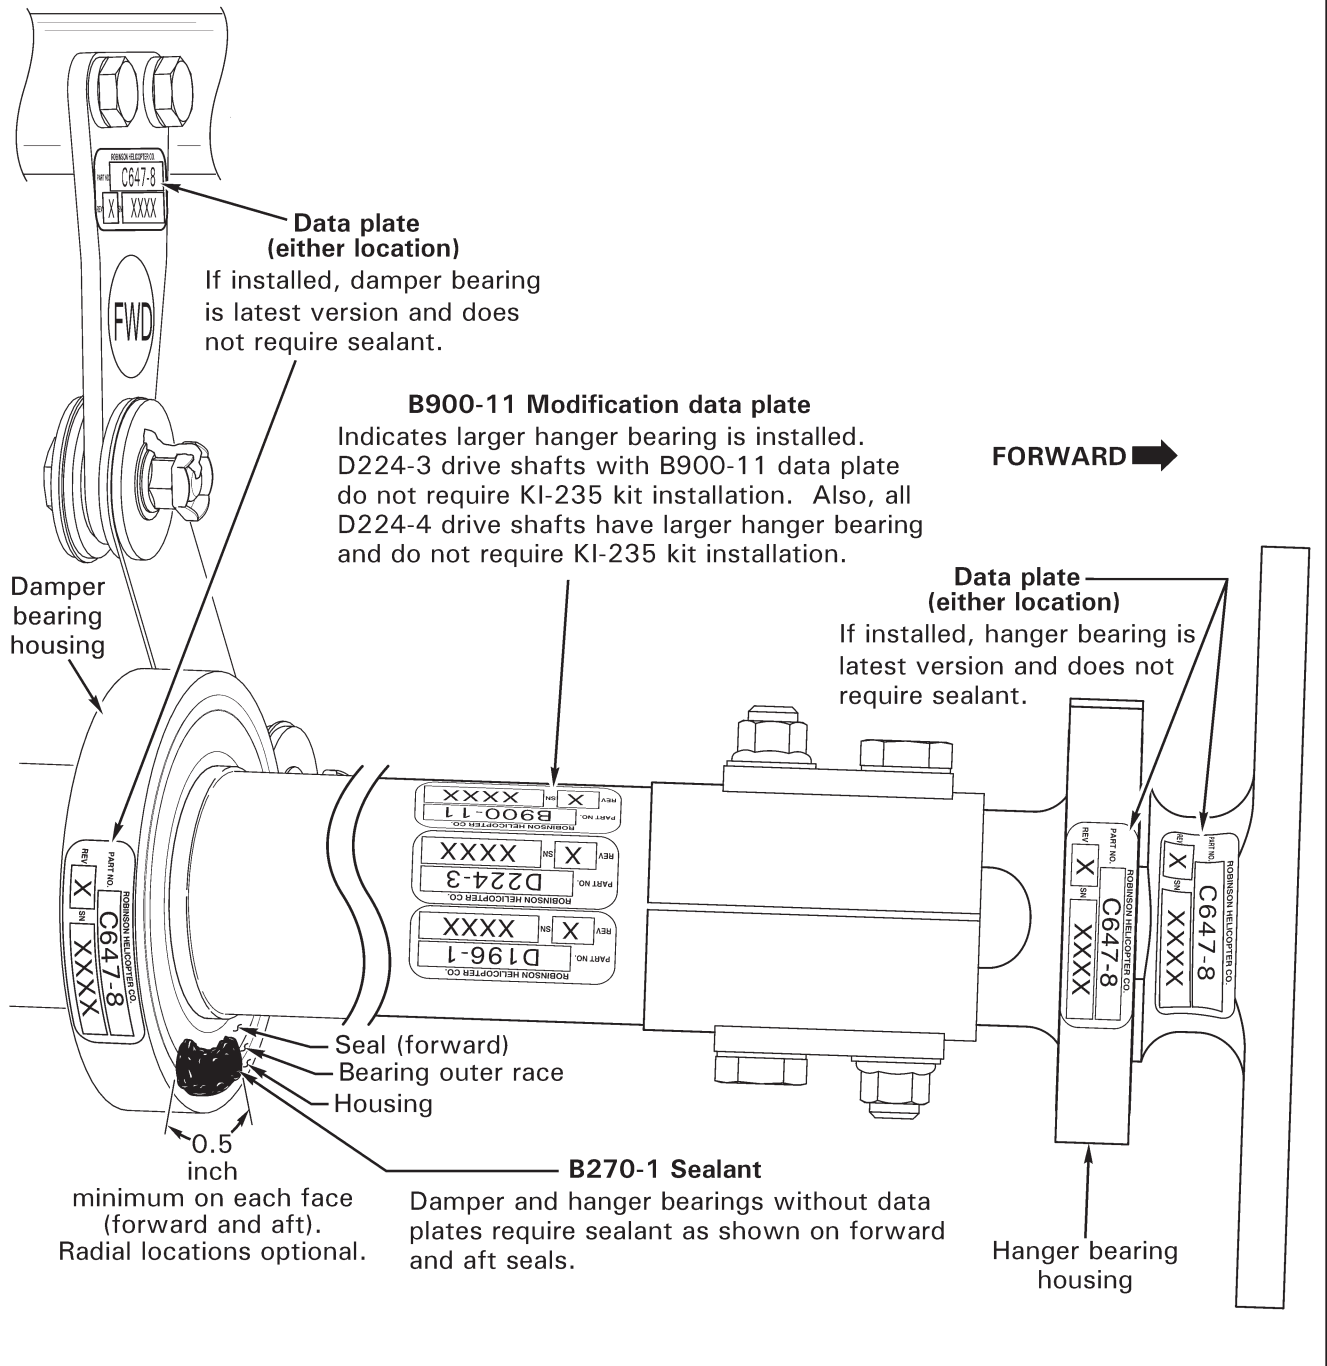

FIGURE 1
1. Refer to Figure 1. If a D224-3 tail rotor drive shaft assembly **without** a B900-11 modification data plate is installed, order one KI-235 bearing upgrade kit from RHC Customer Service and install kit per kit instructions.
Refer to Figure 1. If a data plate is installed on the C041-13 arm or damper bearing housing, then the damper bearing is latest version and no sealant is required; if a data plate is installed on the D195-3 yoke or hanger bearing housing, then the hanger bearing is latest version and no sealant is required. Bearings without data plates require sealant per the following: